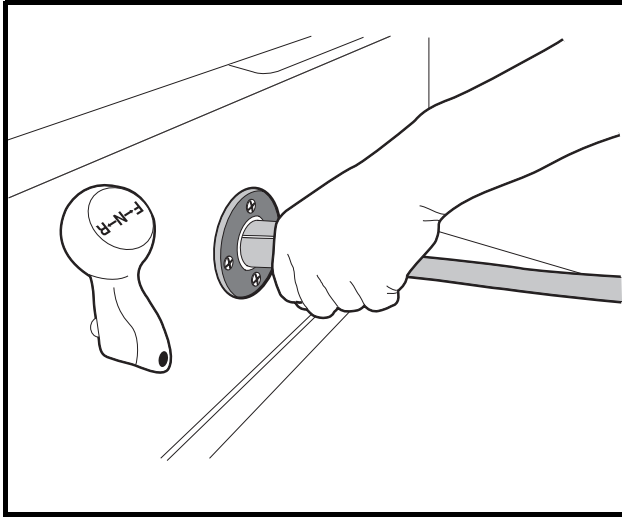
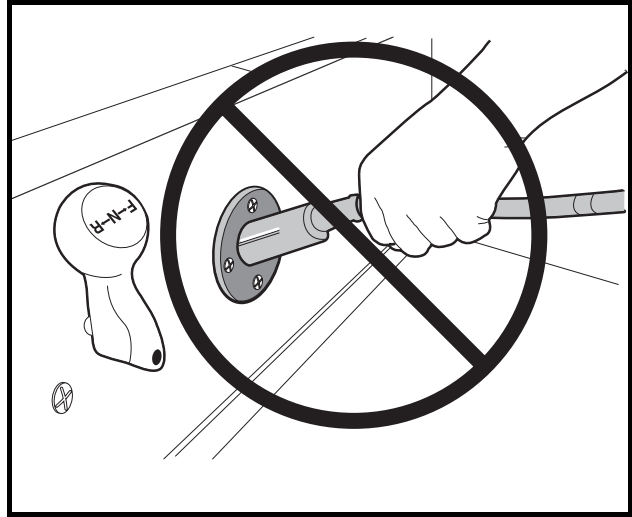

Figure 28 Correct Insertion of Charger DC Plug
Figure 29 Incorrect Insertion of Charger DC Plug
- When using a stationary charger, do not pull on the DC cord (Figure 29, Page 53). Do not twist, rock, or bend the plug. To disconnect the plug from the receptacle, grasp the plug, not the cord, and slowly pull it straight out of the receptacle (Figure 28, Page 53).
Insert the charger AC plug into a dedicated AC receptacle that is properly grounded and wired in accordance with the National Electric Code and all local codes and ordinances. Then insert the charger DC plug into the vehicle receptacle. The charger will turn on two to ten seconds later (**Figure 28, Page 53**).